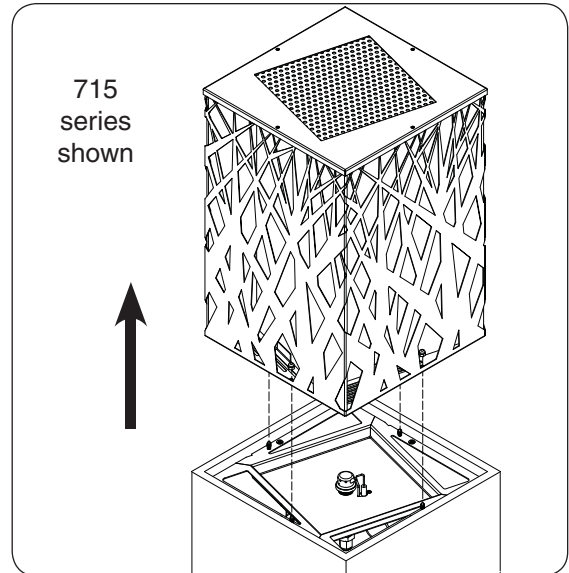
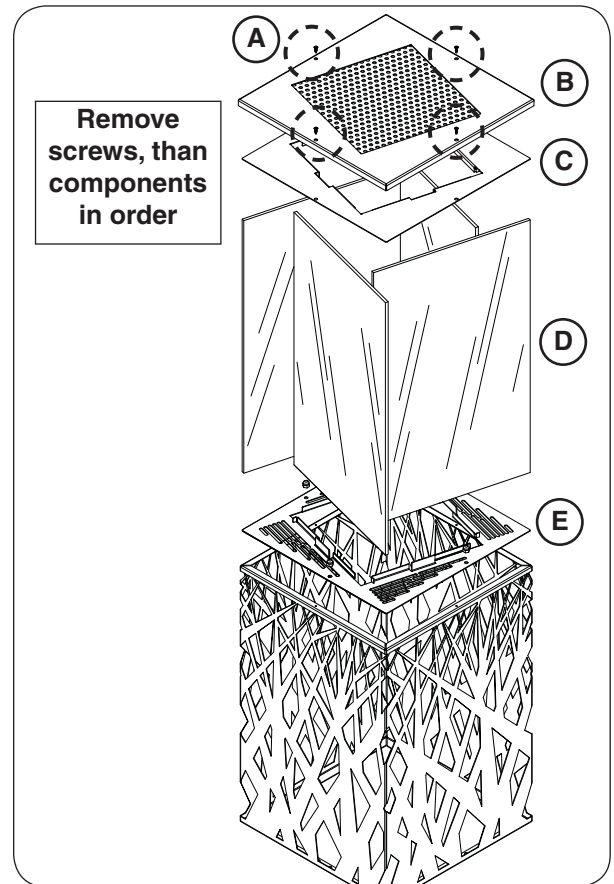

Fig. 27-1 Remove top assembly
Fig. 27-2 Disassemble top assembly
1. Using a $\frac{3}{8}$ " socket driver, remove the four acorn lock nuts at the base of the top assembly, then **CAREFULLY** remove the assembly and set it on a flat and clean work area (see Fig. 27-1).
2. Using a Phillips screwdriver, remove the four screws on the top of the assembly (see fig. 27-2, A).
3. **CAREFULLY** lift up and remove the components, in order, as shown in Fig. 27-2, B - E. Set on the flat clean work area and clean per the instructions below.
1. **CAREFULLY** reverse the disassembly steps above to reassemble and reinstall the top assembly. Refer to Fig. 27-2, Fig. 27-1, and the LANTERN INSTALLATION - TOP ASSEMBLY section as needed.